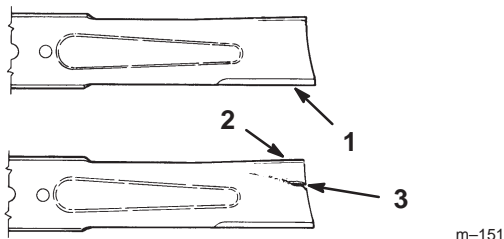

Figure 15
1. Inspect the cutting edges (Fig. 15). If the edges are not sharp or have nicks, remove and sharpen the blades; refer to Sharpening the Blades, page 22.
2. Inspect the blades, especially the curved area (Fig. 15). If you notice any damage, wear, or a slot forming in this area (item 3 in Fig. 15), immediately install a new blade.